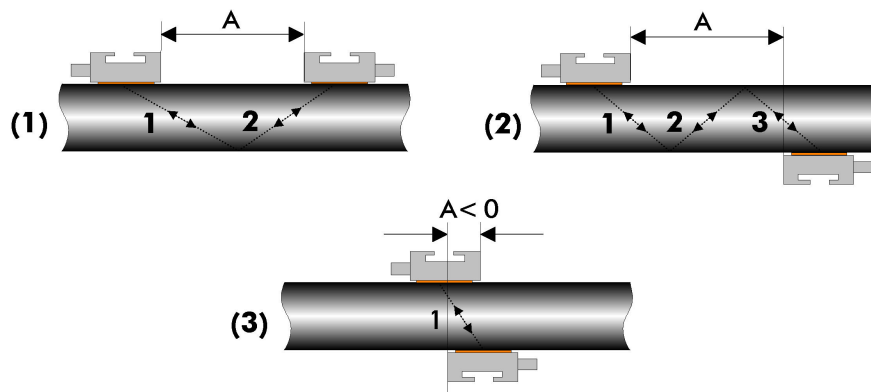

Fig. 7.1: Sound path and transducer distance A
- With an **odd** number of transits (**diagonal mode**), you will have to mount the transducers on opposite sides of the pipe. With an **even** number of transits (**reflection mode**), you will have to mount the transducers on the same side of the pipe (see Fig. 7.1).
Once the number of transit paths has been entered, KATFLOW indicates at which distance from another the transducers should be mounted (here: 54 mm). The transducer distance given here is the distance between the inner edges of the transducers. For very small pipes, a negative transducer distance is possible, as illustrated in Fig. 7.1.